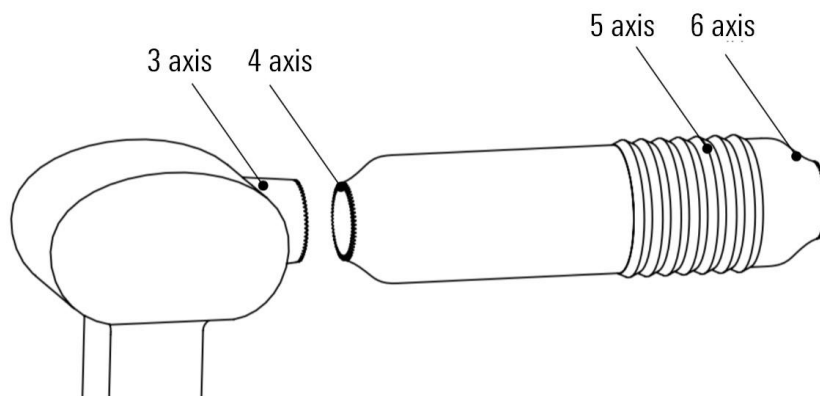

Figure 2-2 Diagram of step 2
Step1. When installing the 4/5/6 axis, please follow the arrow in Figure 2-2 to open it and wrap it from the bottom direction. After installation, the opening should be directly above the 4-6 axes.